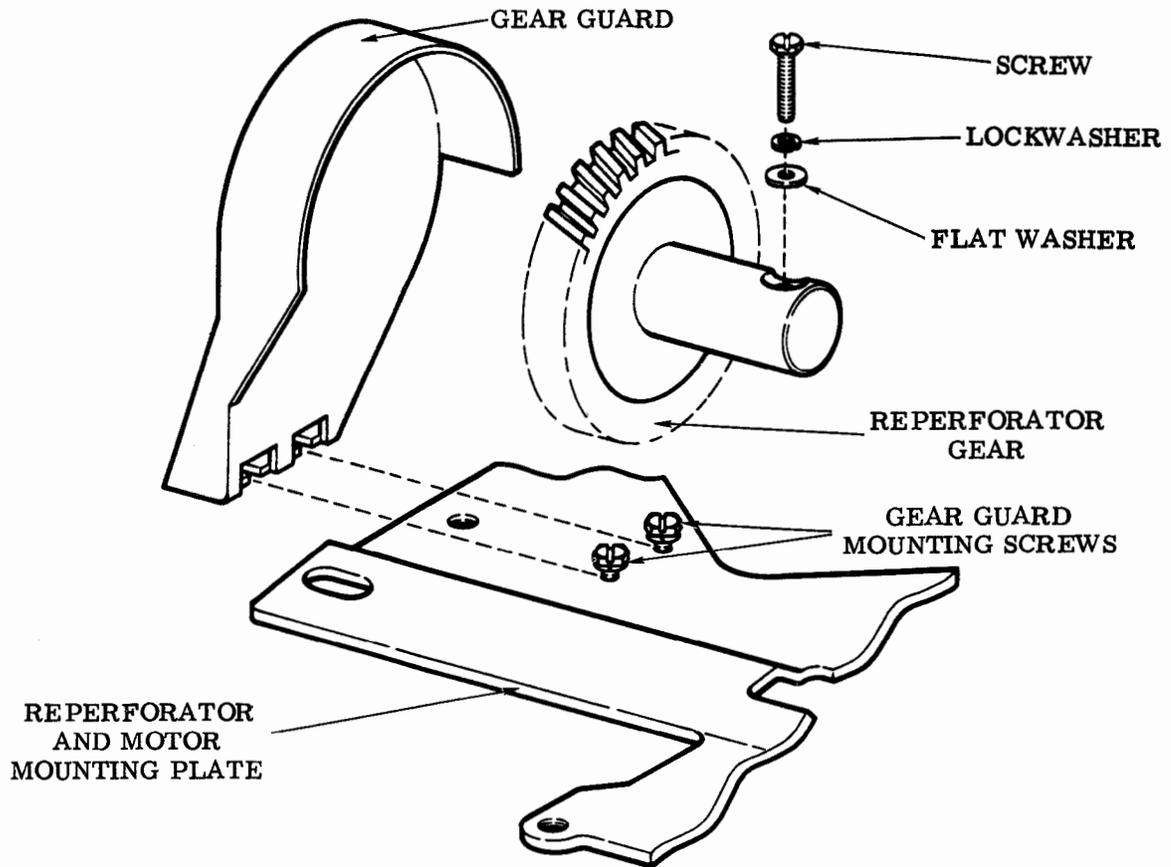

Figure 9 - Gear and Gear Guard Installation
- 4.04 Refer to Figure 9 and install the reperforator gear and gear guard. The adjustment between the motor pinion and reper-